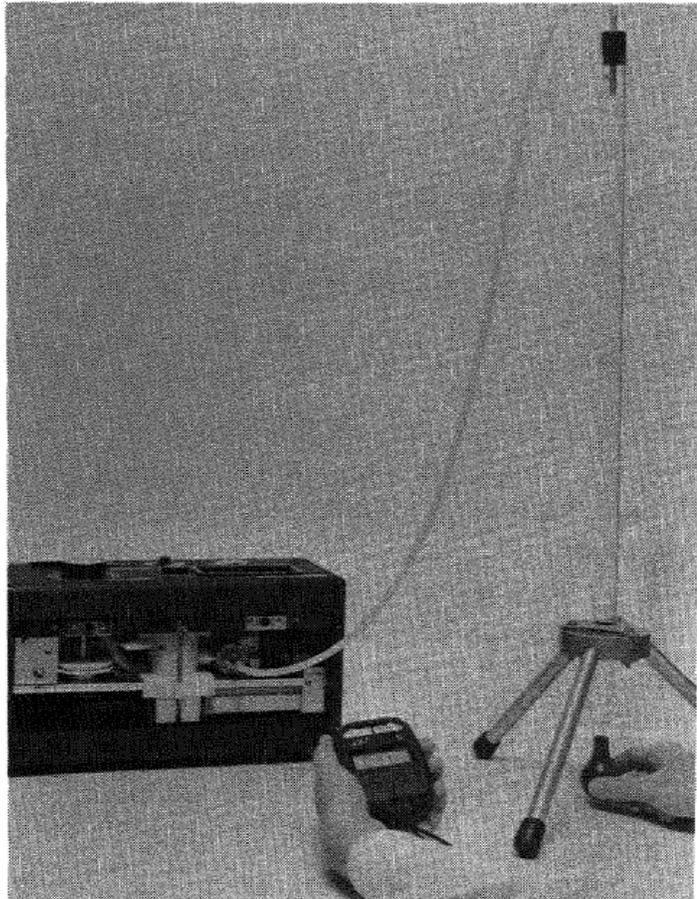

Figure 41. Using a bubble flow meter
If a flow meter is unavailable, use a bubble flow meter and stopwatch (Figure 41).
Step 3. Adjust the flow rate by turning the coarse or fine adjustment potentiometers on the pump adjustment circuit, as shown in the Figure 41.